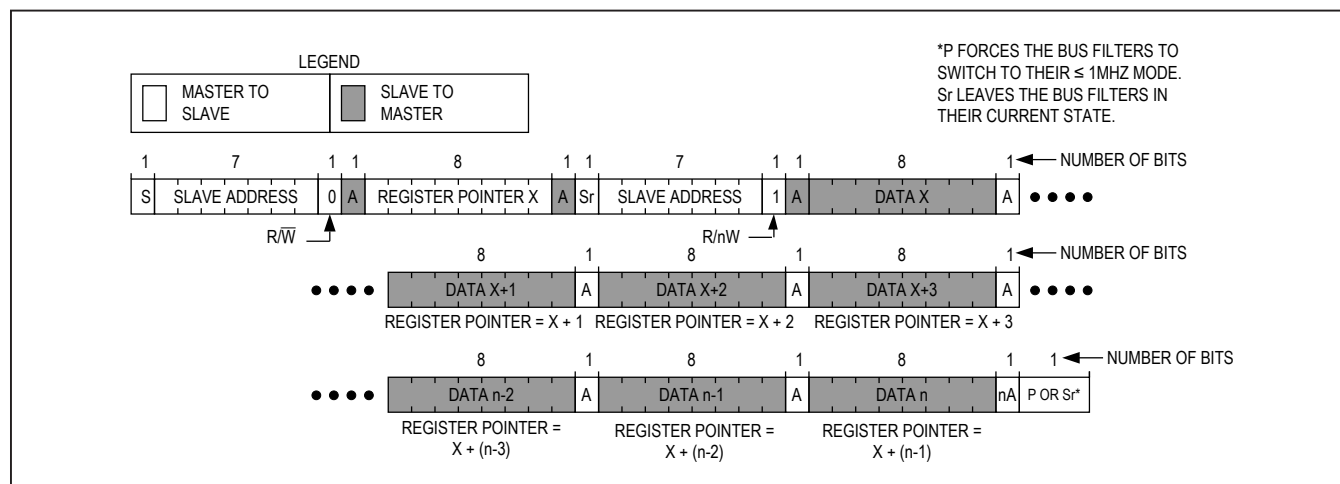

Figure 15. Reading Continuously from Sequential Registers X to N
Figure 15 shows the protocol for reading from sequential registers. This protocol is similar to the read byte protocol except the master issues an ACKNOWLEDGE (A) to signal the slave that it wants more data. When the master has all the data it requires, it issues a NOT-ACKNOWLEDGE (nA) and a STOP (P) to end the transmission.